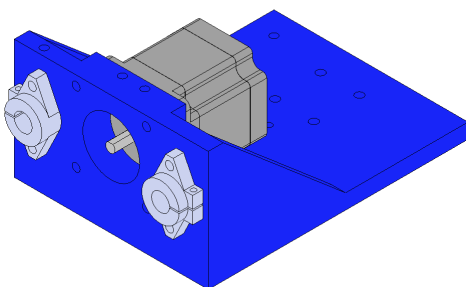

Figure 11: *X-Axis driver* with the SHF12 linear rod supports attached.
5. Attach two SHF12 linear rod supports to the *X-Axis driver*. Use four (4) M4 screws with their corresponding nuts. Keep the tightening screws facing outward of the component. Figure 11 presents the assembly status.